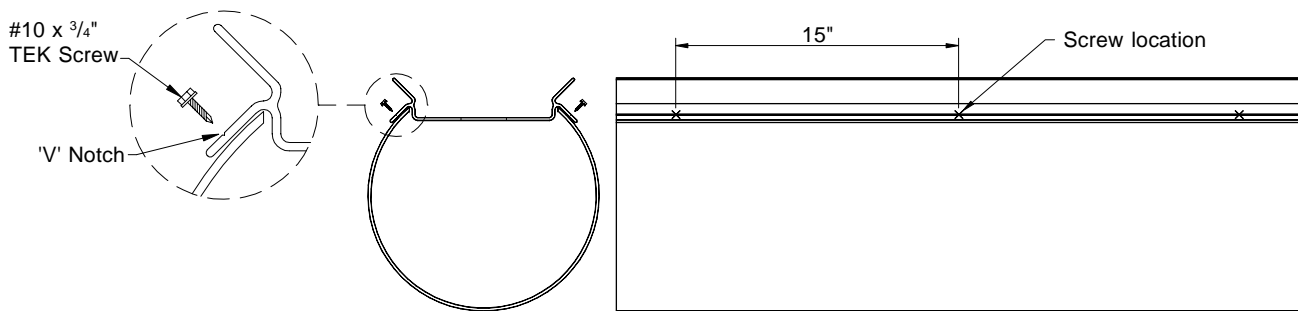

Figure 9
- 13) Insert drip collector into opening of pipe and fasten one side only using #10 x $\frac{3}{4}$ " TEK screws every 15" for the entire length. Use the 'V' notch in the drip collector to align the screws. **See Figure 9.**
- 14) While one person holds the end of the pipe and drip collector level, have another person twist the pipe and drip collector to its level position and fasten the remaining side with #10 x $\frac{3}{4}$ " TEK Screws every 15" O.C. **See Figures 9 and 10.** Continue installing drip collector until fully installed by repeating Steps 13 & 14, leaving no gap between collectors (press sections tightly together).